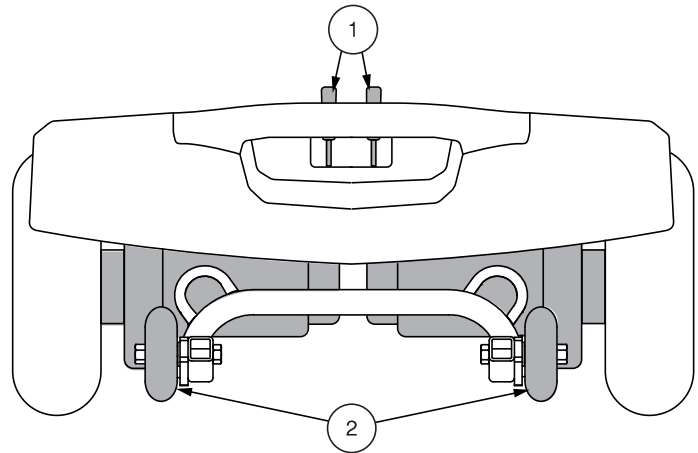

Figure 9. Rear Components - Jazzy ZTS
For your convenience, your travel scooter has a manual freewheel lever on each motor. Manual freewheel levers enable you to disable the drive system in order to maneuver the Travel Scooter manually. See figure 9.
1. Locate the levers on the rear section of the scooter. **See figure 9.**